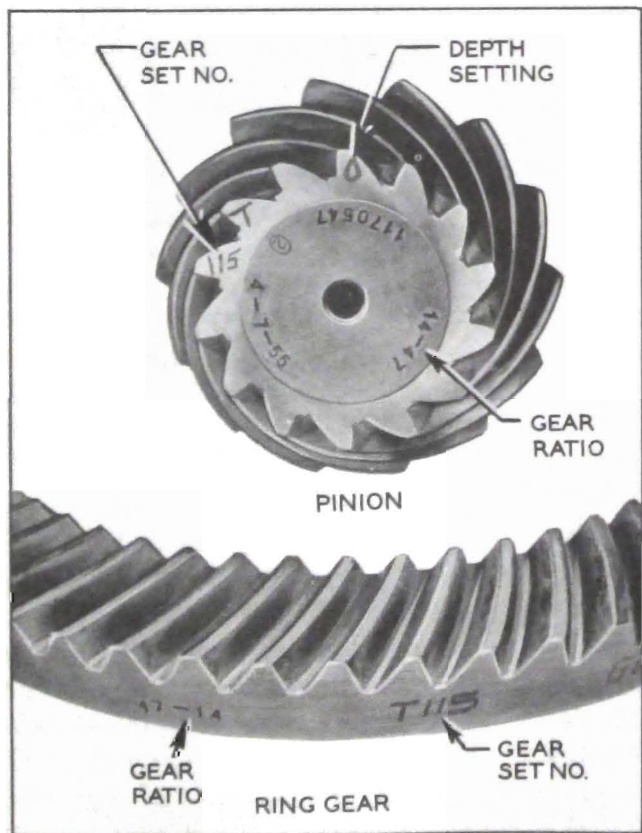

Figure 6-26—Ring and Pinion Gear Set Markings
All Buick ring and pinion gear sets are selectively matched for best operating position and proper tooth contact. After matching, a serial number is etched on one tooth of pinion and on rear face of gear to aid in keeping matched parts together. See Figure 6-26. Parts having different serial numbers must never be used together.
or under the “nominal” setting is etched on the small end of a pinion tooth. See figure 6-26. When a pinion is marked “+” (plus) it means that the rear face of the pinion when pressed in the carrier must be at the “nominal” distance from the centerline of the side bearing pedestals *plus* the amount indicated on the pinion tooth. When a pinion is marked “-” (minus) it means that it must be located at the “nominal” distance *minus* the amount indicated on the pinion tooth.
7. Rotate the pinion until the blank tooth between the matching number and the pinion setting mark is slightly counterclockwise of top center (at about 11 o'clock). This tooth is called the gauging tooth (Fig. 6-26) because it is used for locating and gauging during production and should therefore be used for gauging in service.
3. Check matching numbers on ring gear and pinion to make sure the two parts have not been mixed with another gear set. See figure 6-26.